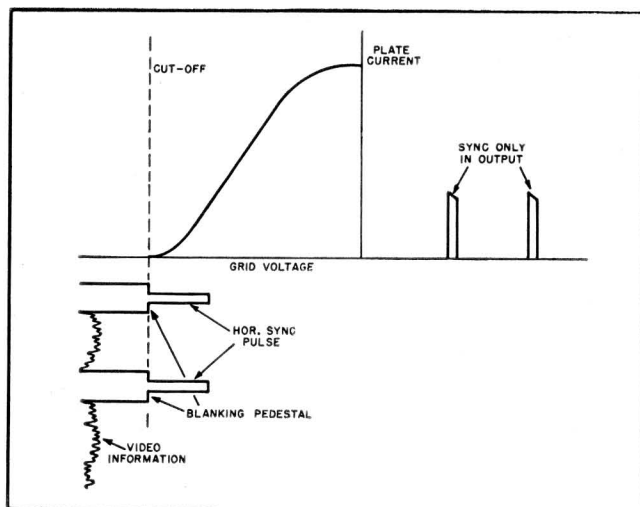

Figure 14. V208A grid-voltage, plate-current waveforms.
**FIRST SYNC CLIPPER.** — That portion of the composite-video signal which appears across R302 and R303 is applied to the grid of the first sync clipper in conjunction with the output of the noise inverter. The noise cancellation action previously described takes place at this grid. Since the video-amplifier plate is d-c coupled to V208A, the grid is positive. A positive cathode voltage, exceeding this positive grid voltage, is developed across R285-C215, negatively biasing the tube. The operating conditions of the tube are shown in figure 14. The grid bias point of V208A is well beyond cut off, so that the tube conducts only on the horizontal-sync pulse, and the video and blanking information do not appear in its output.